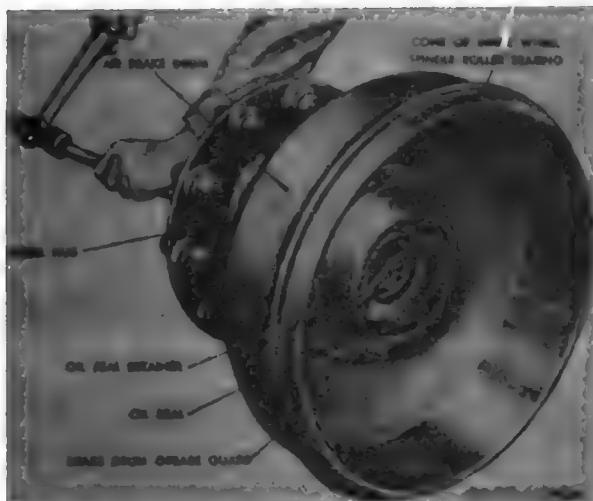

Figure 149. Removing cone of inner wheel spindle roller bearing.
drum grease guard to loosen these screws. Tip the packing retainer at an angle (fig. 149). Using a brass drift, drive out the cone and rollers and the encased plain seal. Place the brass drift against the cone and rollers through the hub and tap it with a hammer. These parts are forced out evenly by tapping all around the edges of the cone.
a. Tip the packing retainer at an angle (fig. 149) to provide room to insert the cone and rollers in position in its cup in the hub. Insert the encased plain seal in the same manner. Install the cone and rollers and the encased plain seal by tapping the seal into position with a brass drift. Tap it evenly